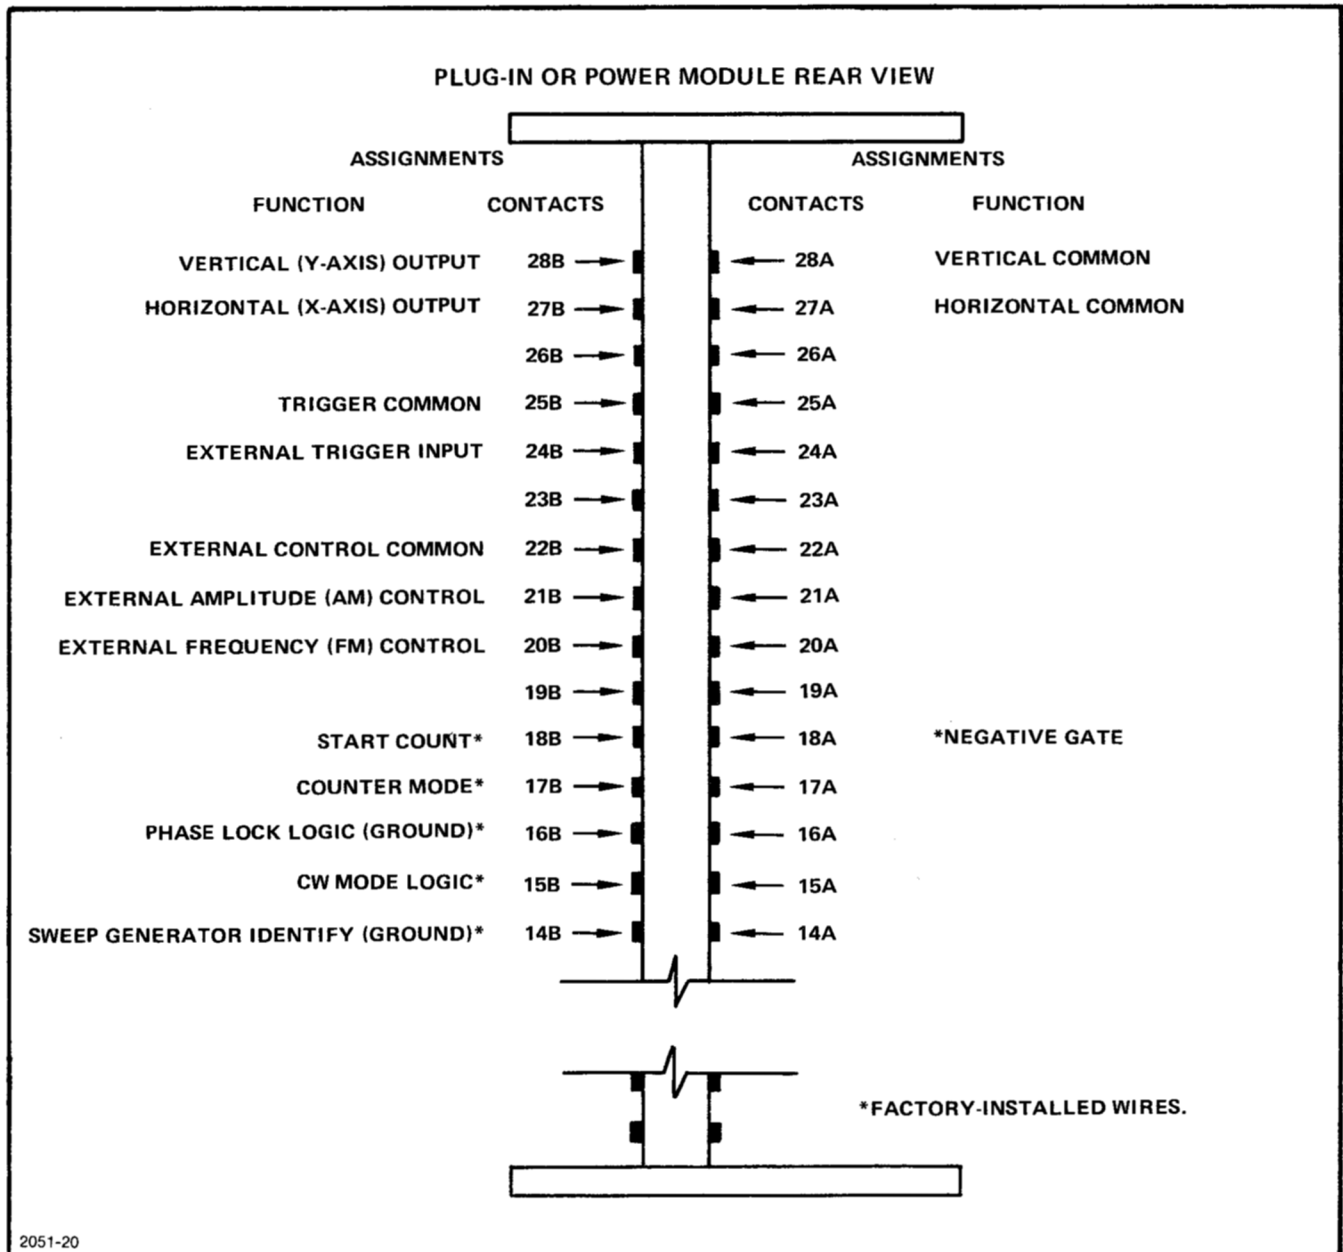

Figure 5-1. Rear plug-in connector P40 interface wiring.
Refer to Figure 3-1 for connector P40 location, and to Figure 5-1 for rear plug-in connector contact locations. Note that both A and B sides of the rear plug-in connector can be soldered from either side of the circuit board.
b. Strip the ends of a 12-inch length of miniature coaxial cable (such as Tektronix Part No. 175-1020-00). Refer to Figure 5-1 for the following steps.
a. Connect a wire between P40 pin 4 (locate in Figure 3-4) and rear plug-in connector contact 20B (marked "FM" on board; locate in Figure 5-1).
a. Connect a wire between P40 pin 3 (locate in Figure 3-4) and rear plug-in connector contact 21B (marked "AM" on board; locate in Figure 5-1).
a. Connect a wire between P40 pin 7 (locate in Figure 3-4) and rear plug-in connector contact 24B (marked "TRIG" on board; locate in Figure 5-1).
asterisks in Figure 5-1. These lines, described fully in the following table, are intended to interface with the DC 502 Option 7 Digital Counter; other counters may need to be modified. All lines use standard TTL voltages (0 V and +5 V). The six interface lines are used as indicated in Table 5-1.